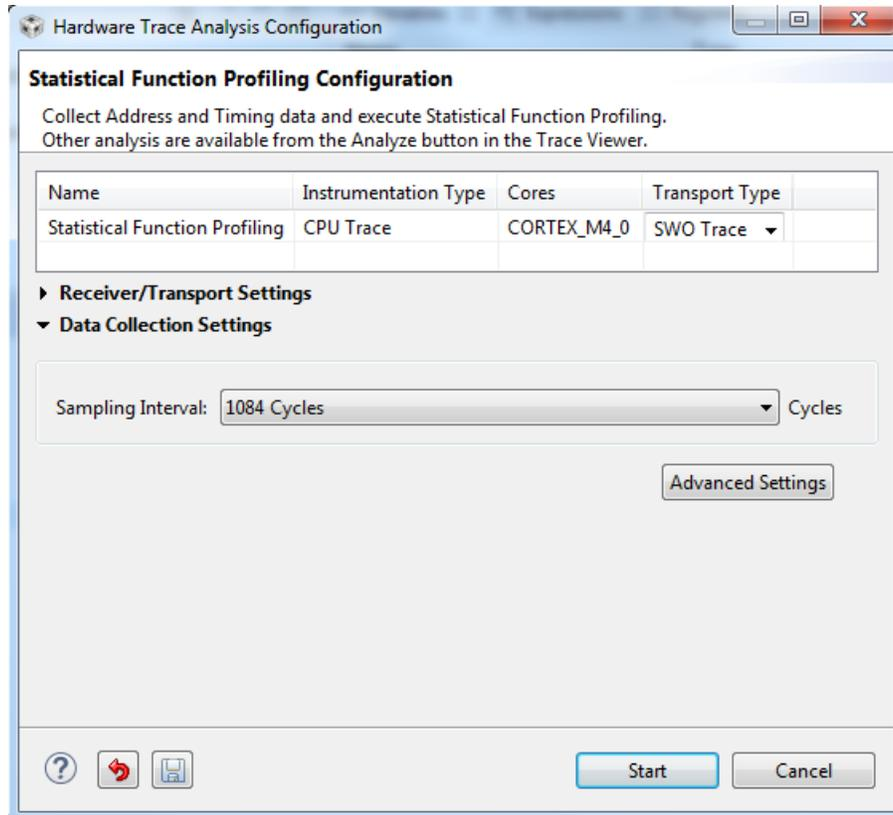

Figure 7. Statistical Function Profiling Setup
2. Use the settings in the Statistical Function Profiling Configuration window to configure the use case (see Figure 7). For statistical function profiling, choose how often the ITM samples the PC. The more often the PC (Program Counter) is sampled, the more precise the list of functions. More samples also take more time. The fastest rate that the ITM can sample is one sample per 64 clock cycles, which is a hardware limitation. For the demo, leave the default setup and select *Start*.